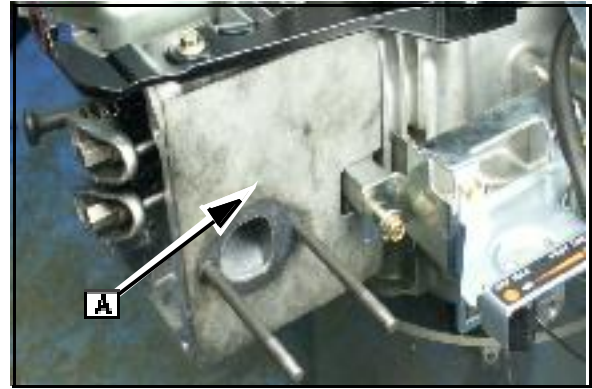

Fig. 24
3. Place large carburetor gasket-adpater ([A] Fig. 24).